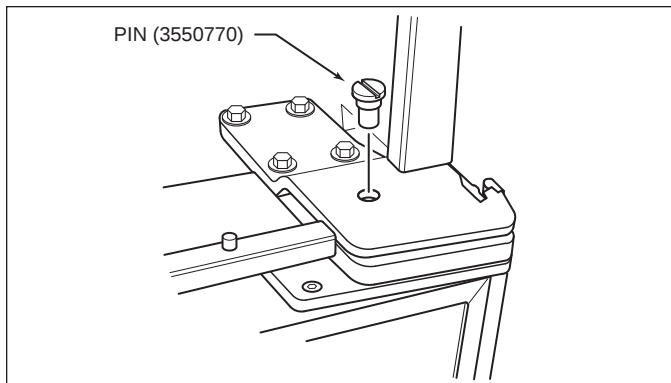

Figure 2-11. 90° Stop Pin (611-3, 650-3)
- With door closed, insert door stop pin down into threaded hole in top cabinet hinge and tighten (See Figure 2-11). Then, reinstall unit grille.